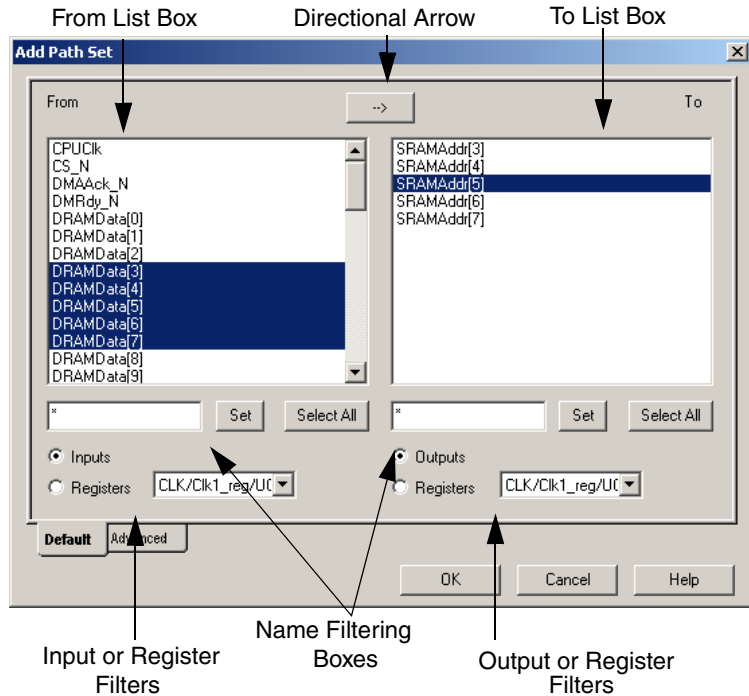

Figure 2-2. Timer Add Set Dialog Box
5. **Select the desired Inputs, Registers, and Outputs radio buttons to filter the From and To list boxes.** The example in Figure 2-2 on page 24 shows Inputs in the From list box and All Registers in the To list box.
2. **Choose *Add Set of paths* from the Edit menu.** The Add Path Set dialog box appears, as shown in Figure 2-2 on page 24.
2. **From the Edit menu, click *Add set of paths*.** The Add Path Set dialog box will appear, as shown in Figure 2-2 on page 24.